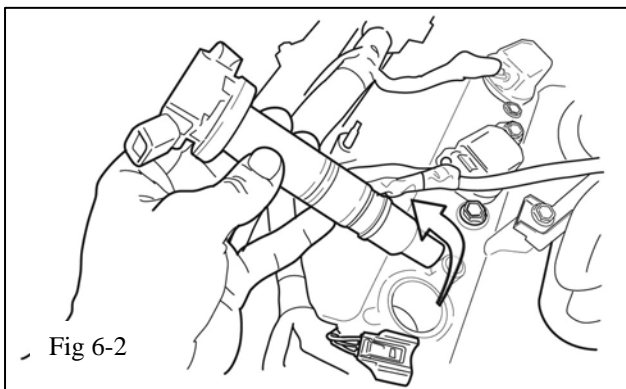

Fig 6-2
- (b) Remove the 6 bolts, then remove the 6 ignition coils (Fig 6-2).